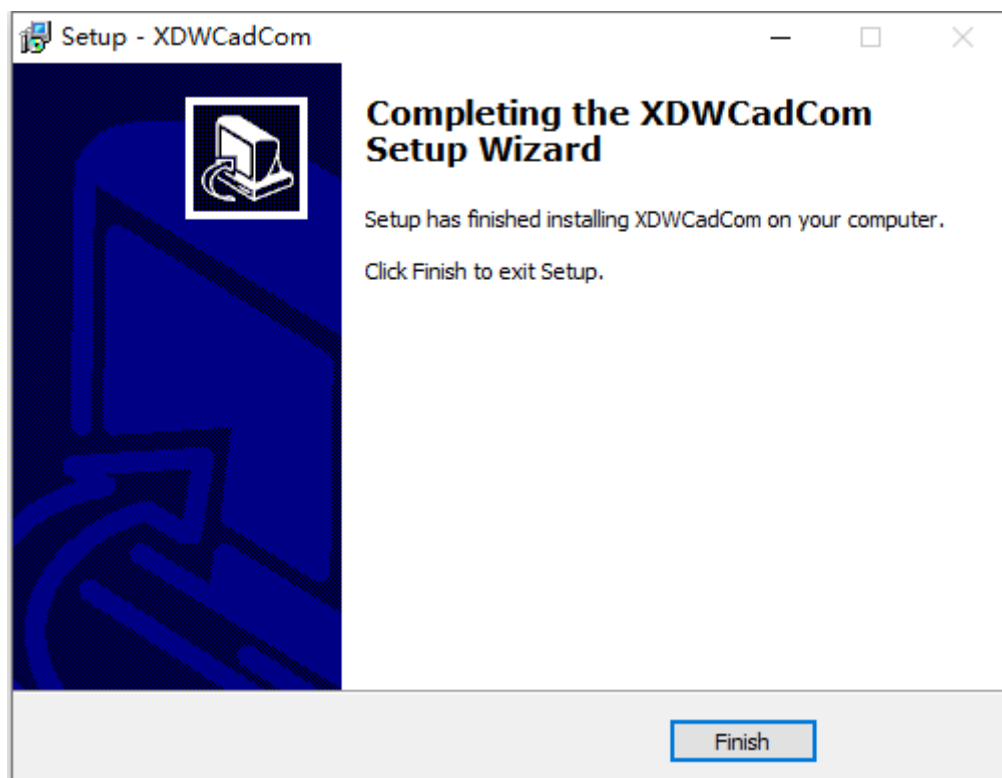

Figure 2.2-12
(14) Click CNCRouter to complete the installation and complete the installation. As shown in Figure 2.2-12: